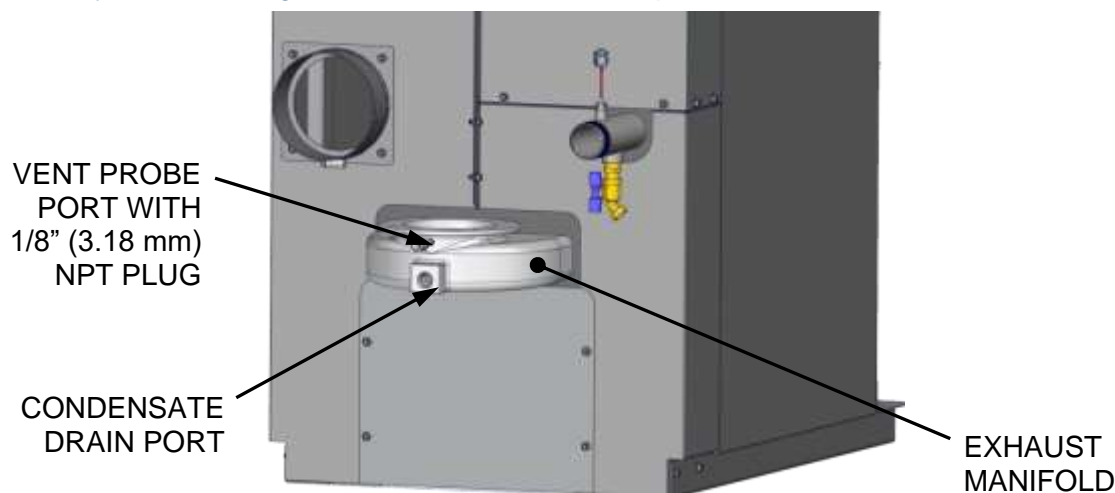

Figure 4.2.3: Analyzer Probe Hole Location
The unit contains a 1/8" NPT port at the rear of the exhaust manifold. This port is located above the condensate drain connection as shown in Figure 4.2.3. Prepare the port for the combustion analyzer probe as follows:
1. Refer to Figure 4.2.3 and remove the 1/8" NPT plug from the rear of the exhaust manifold.